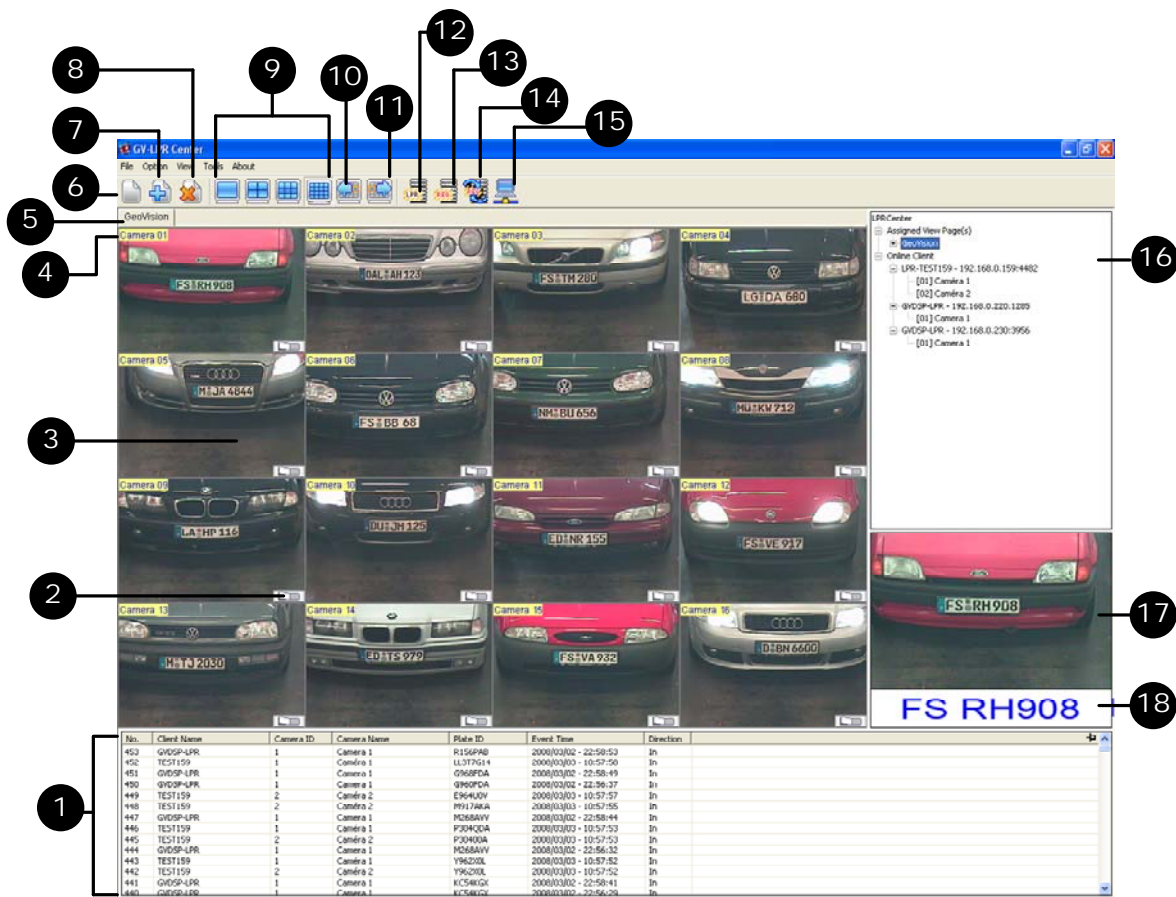

Figure 1-1
To assign cameras to the View Pages, select the desired camera from the Online Client category (No. 16, Figure 1-1), and drag it to the desired Live View Window on the View Page (No. 3, Figure 1-1).
Click the desired camera from the Assigned View Page field (No. 16, Figure 1-1). This dialog box appears.
In the Recognition Records field (No. 1, Figure 1-1), click the desired record. This dialog box appears.
2. At the GV-LPR Center site, click the **Remote Desktop** button (No. 15, Figure 1-1) on the toolbar or **Tools** on the menu bar and select **Remote Desktop**.